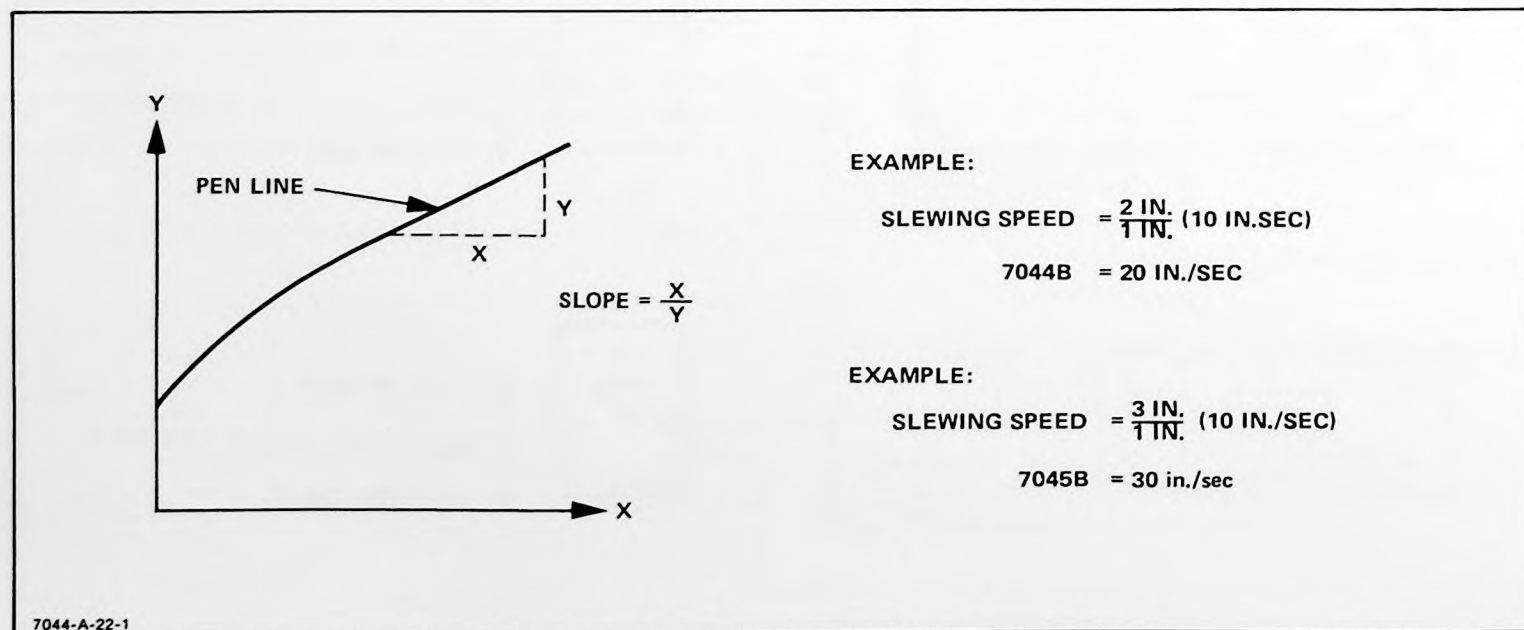

Figure 5-14. X-Axis Slewing Speed — 7044B and 7045B Models
f. At center of Y-axis travel, close S1 switch. After arm has slewed to full scale, position SERVO toggle switch to STANDBY. Plot in Figure 5-14 indicates pen moves greater than 2 inches in Y direction for 1 inch movement in X-direction. Minimum slewing speed = (slope) (10 in./sec) = 20 in./sec (slope) (25.4 cm/sec) = 50 cm/sec for the 7044B Model. For the 7045B (slope) (10 in./sec) = 30 in./sec (slope) (25.4 cm/sec) = 76 cm/sec minimum slewing speed.